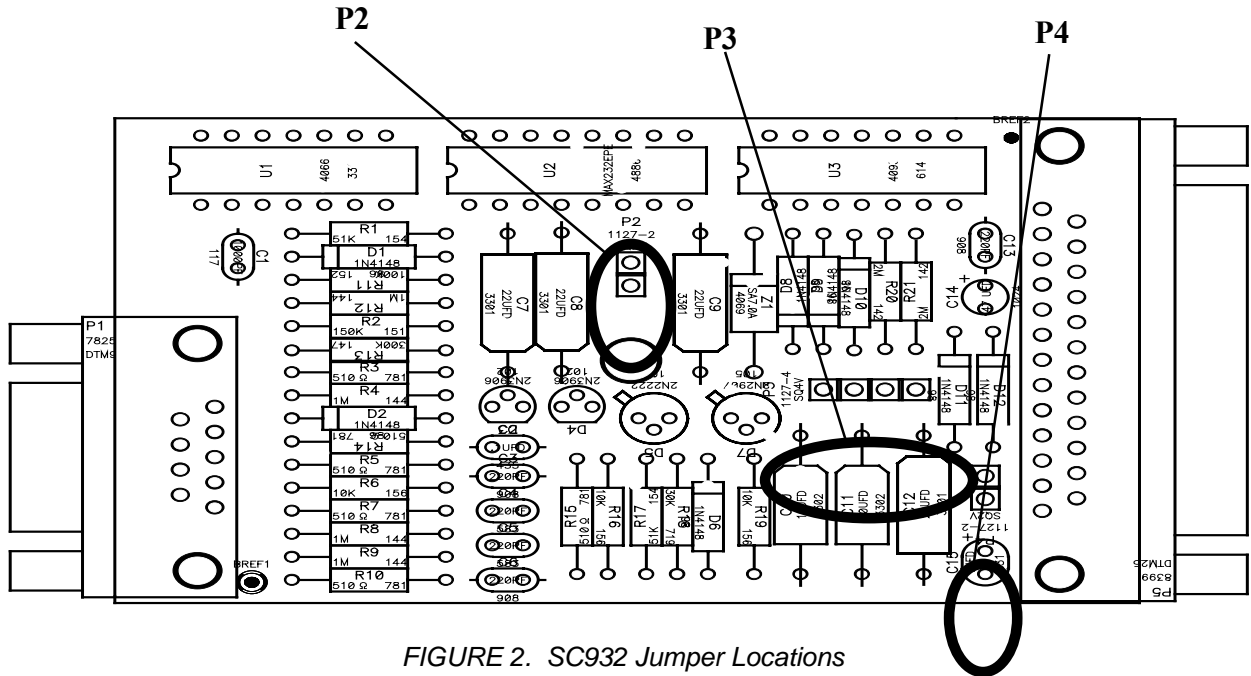

FIGURE 2. SC932 Jumper Locations
2. Jumper P3 between pins 1-2 (activated by Modem Enable) to set the SC932 for two way communication. See Figures 2 and 3.
2. Jumper P3 between pins 3-4 to set the SC932 to one way data only. The SC932 is activated by pin 6 synchronous device enable (SDE) on the datalogger's serial I/O port. See Figures 2 and 3.
2. Jumper P3 between pins 1-2 and between pins 3-4 to set the SC932 for two way or one way telecommunications. See Figures 2 and 3.